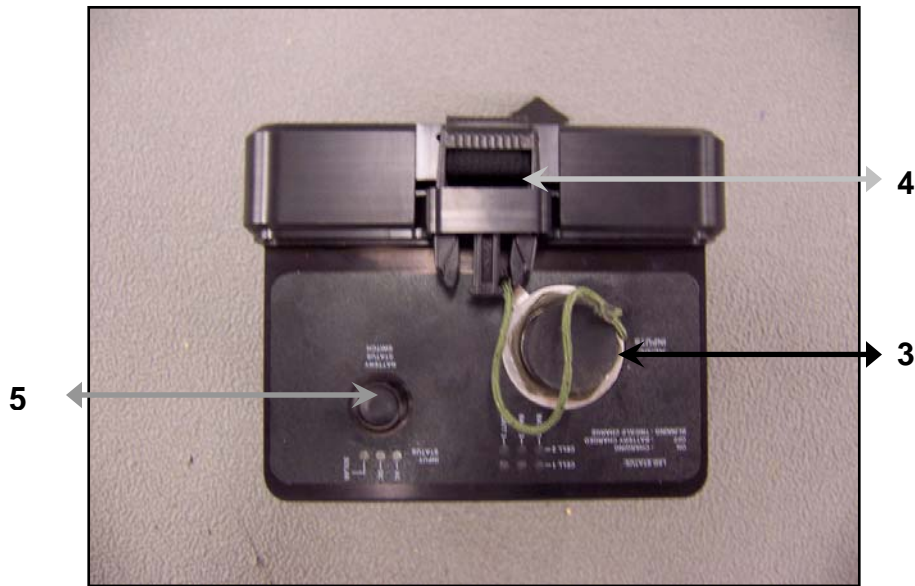

Figure 2 MRC-143 AC/DC Input and Battery Status Switch
- The battery status switch (5) will turn the LED's on or off, however the batteries will charge until removed or fully charged. **See Figure 2.**